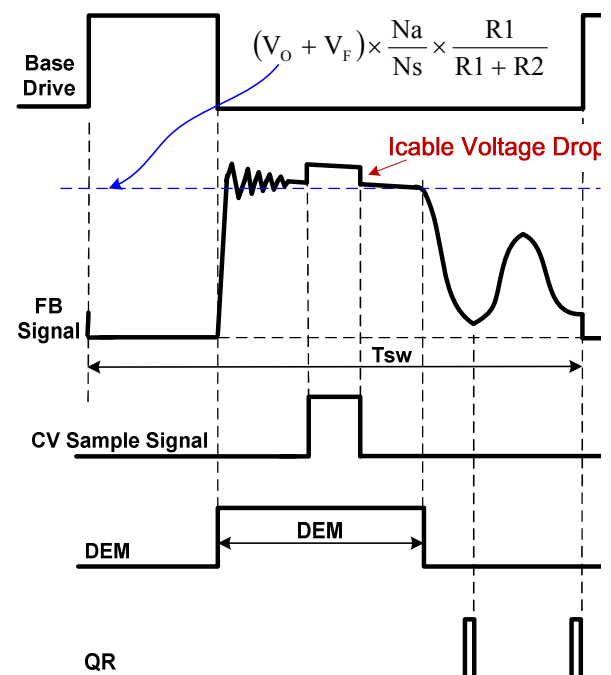

Fig.2
In Primary Side Regulation (PSR) control, the output voltage is sensed on the auxiliary winding during the transfer of transformer energy to the secondary. Fig.2 illustrates the timing waveform of CV sampling signal, demagnetization signal (DEM) and quasi-resonant (QR) trigger signal in DP1806. When the CV sampling process is over, the internal sample/hold (S&H) circuit captures the error signal and amplifies it through the internal Error Amplifier (EA). The output of EA is sent to the Quasi Resonant PSR CV Modulator (QR-CVM) for CV regulation. A valley is selected to trigger new PWM cycle by the output of the QR-CVM block, which is determined by the load. The internal reference voltage for EA is trimmed to 1.3V with high accuracy.
During the CV sampling process, an internal variable current source is flowing to FB pin for Cable Drop Compensation (CDC). Thus, there is a step at FB pin in the transformer demagnetization process, as shown in Fig.2. Fig.2 also illustrates the equation for